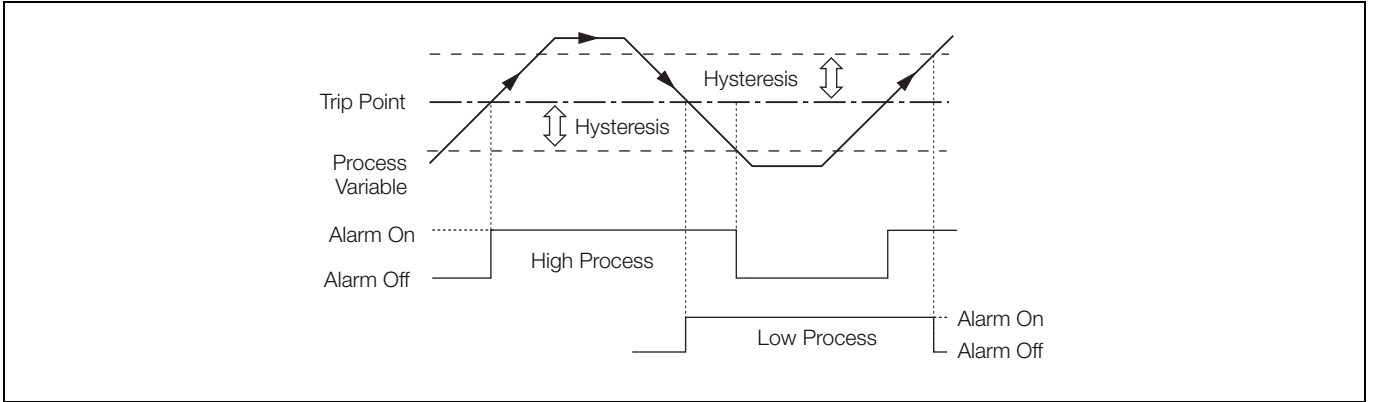

Fig. 6.14 High/Low Process Alarms
- High/Low process – see Fig. 6.14, page 93